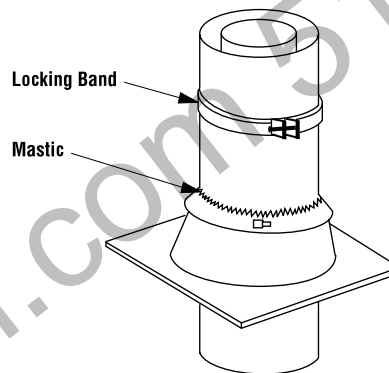

Figure 30
**Step 8.** The standard Security Chimneys roof flashing assemblies include a storm collar. Slide storm collar over outer chimney, align with top surface of flashing, insert tab in slot, pull tight and bend tab back over slot. Seal storm collar to outer chimney with roof caulking or mastic around entire circumference of pipe. Also add extra roof caulking where storm collar meets flashing and to the tab/slot area to seal completely against water penetration (Figure 30). Check all joints very carefully to ensure no water intrusion can take place.
**Step 9.** Security Chimneys locking bands, Model FLB, may be required if the chimney extends too high above the roof flashing. As a general rule, if the chimney extends more than 6' above the roof flashing, the use of locking bands is advisable to strengthen the chimney assembly. Align the locking band at the chimney joint. Locking bands wrap around pipe joints equally covering the joints of both pipe sections. Use the nut provided and TIGHTEN snugly. Do not overtighten as this might damage the chimney section (refer to Figure 30).